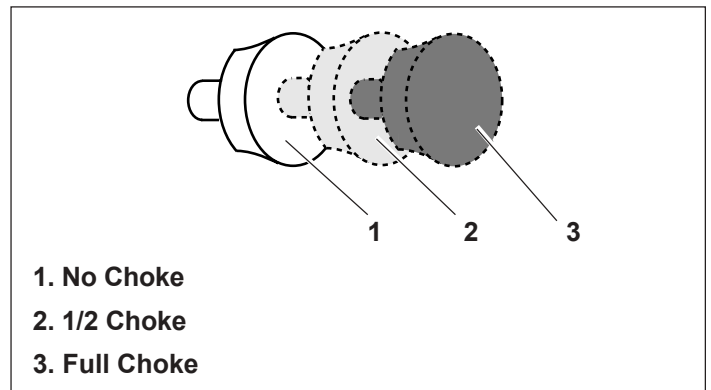

Figure 6. Choke Control Positions
- c. Next, move control to "NO CHOKE" position. See Figure 6.
- c. *Finally, move control to "NO CHOKE" position. See Figure 6.*